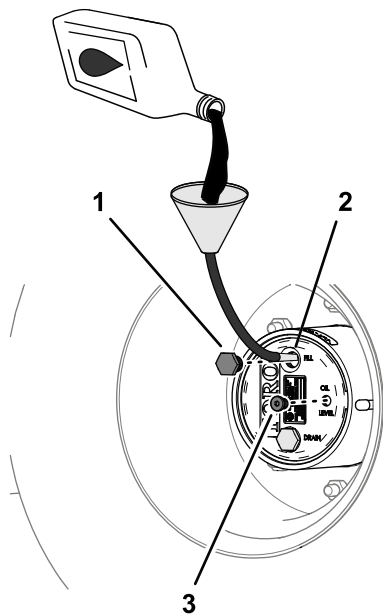

Figure 88
4. If the lubricant level is low, remove the fill plug and add the specified lubricant until it begins to flow out of the check-plug hole (Figure 88); refer to Planetary-Gear-Drive Lubricant Specification (page 66).
6. Install the fill plug and the check plug (Figure 88).
1. Through the fill-plug hole, slowly add the specified gear lubricant; refer to Figure 88 in Checking the Planetary-Gear-Drive Lubricant (page 66).
3. Install the fill plug and check plug; refer to Figure 88 in Checking the Planetary-Gear-Drive Lubricant (page 66).